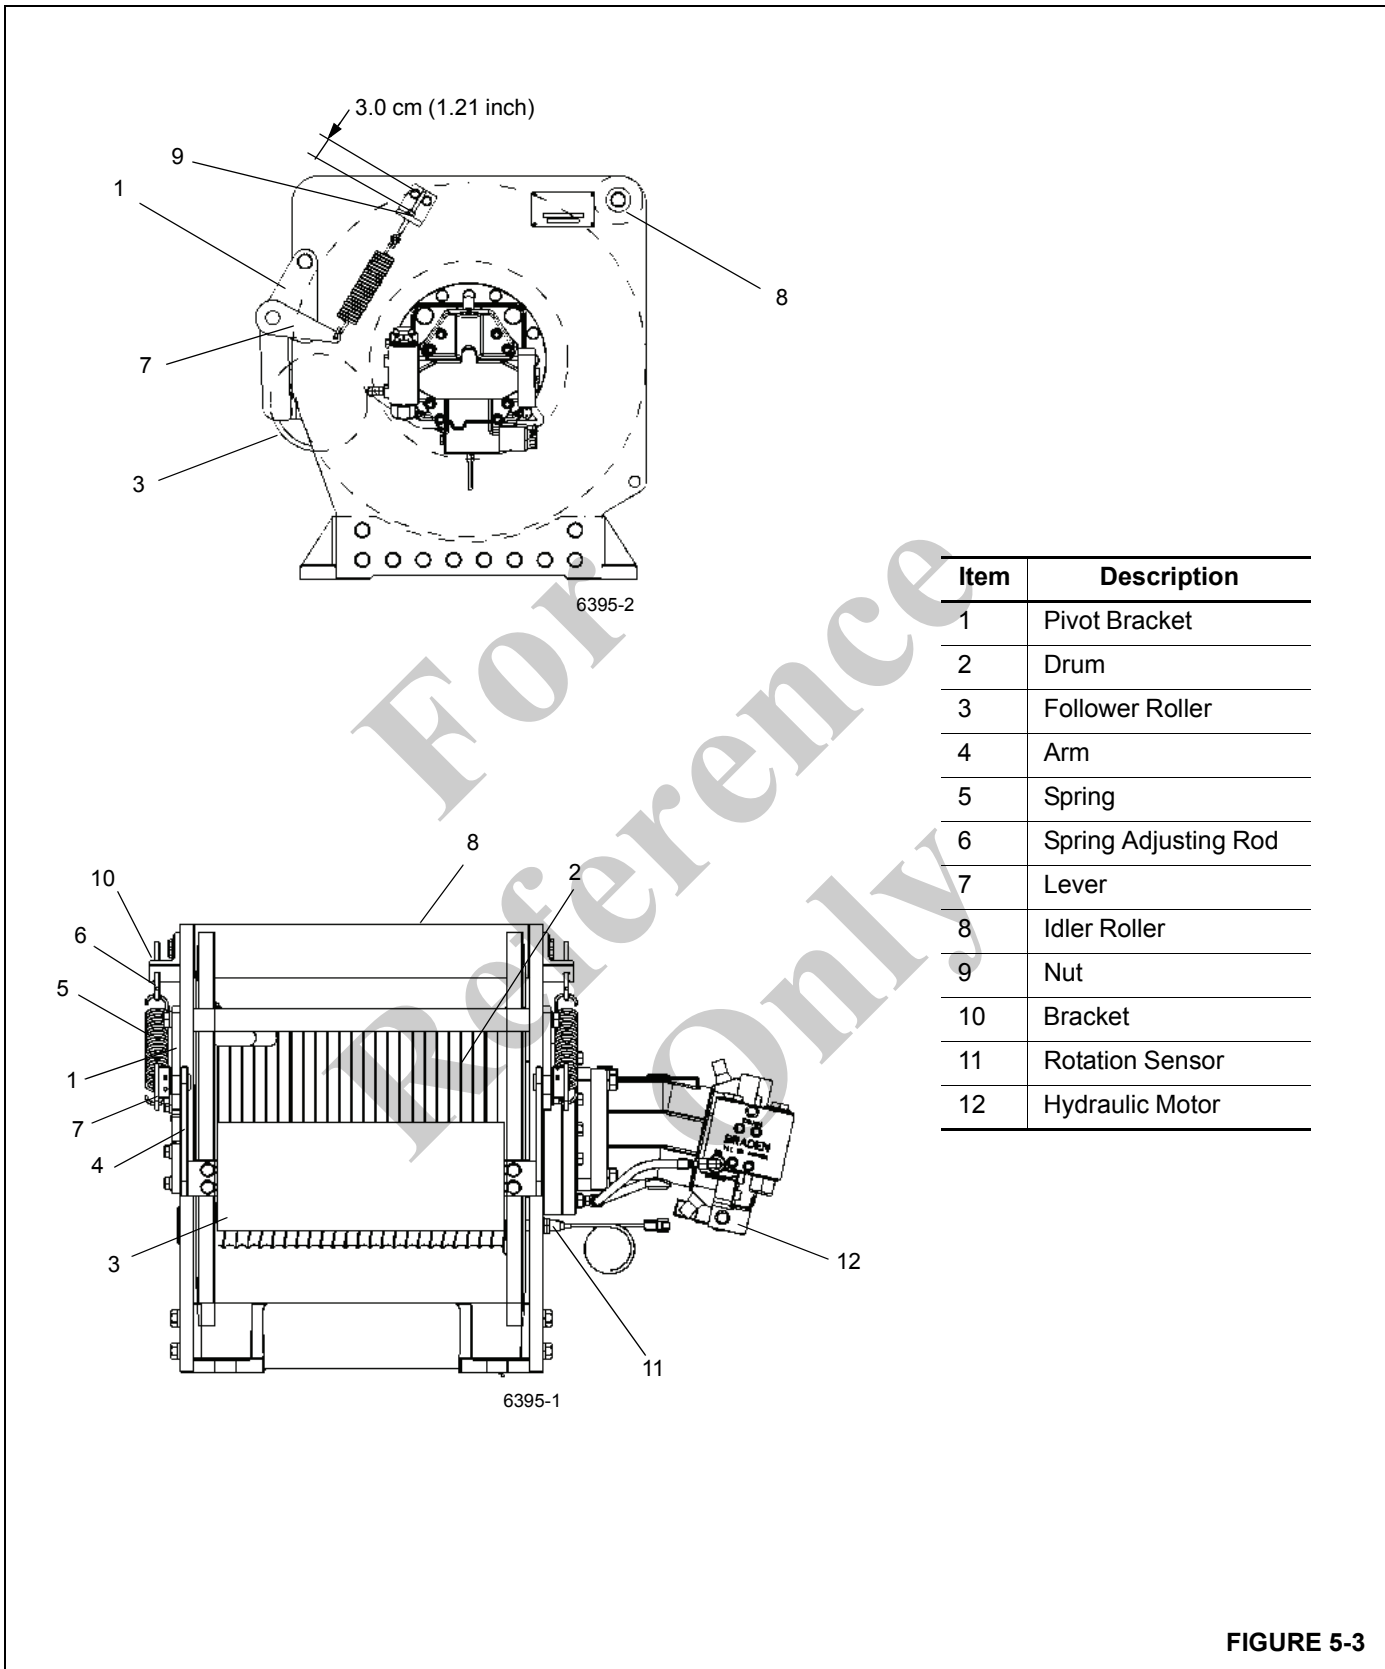

FIGURE 5-3
1. Remove the bolt, washer, and lockwasher from the right side of the idler roller (see Figure 5-3).
1. Loosen the adjusting nuts and remove the tension spring and adjusting rod from both sides of the hoist (see Figure 5-3).